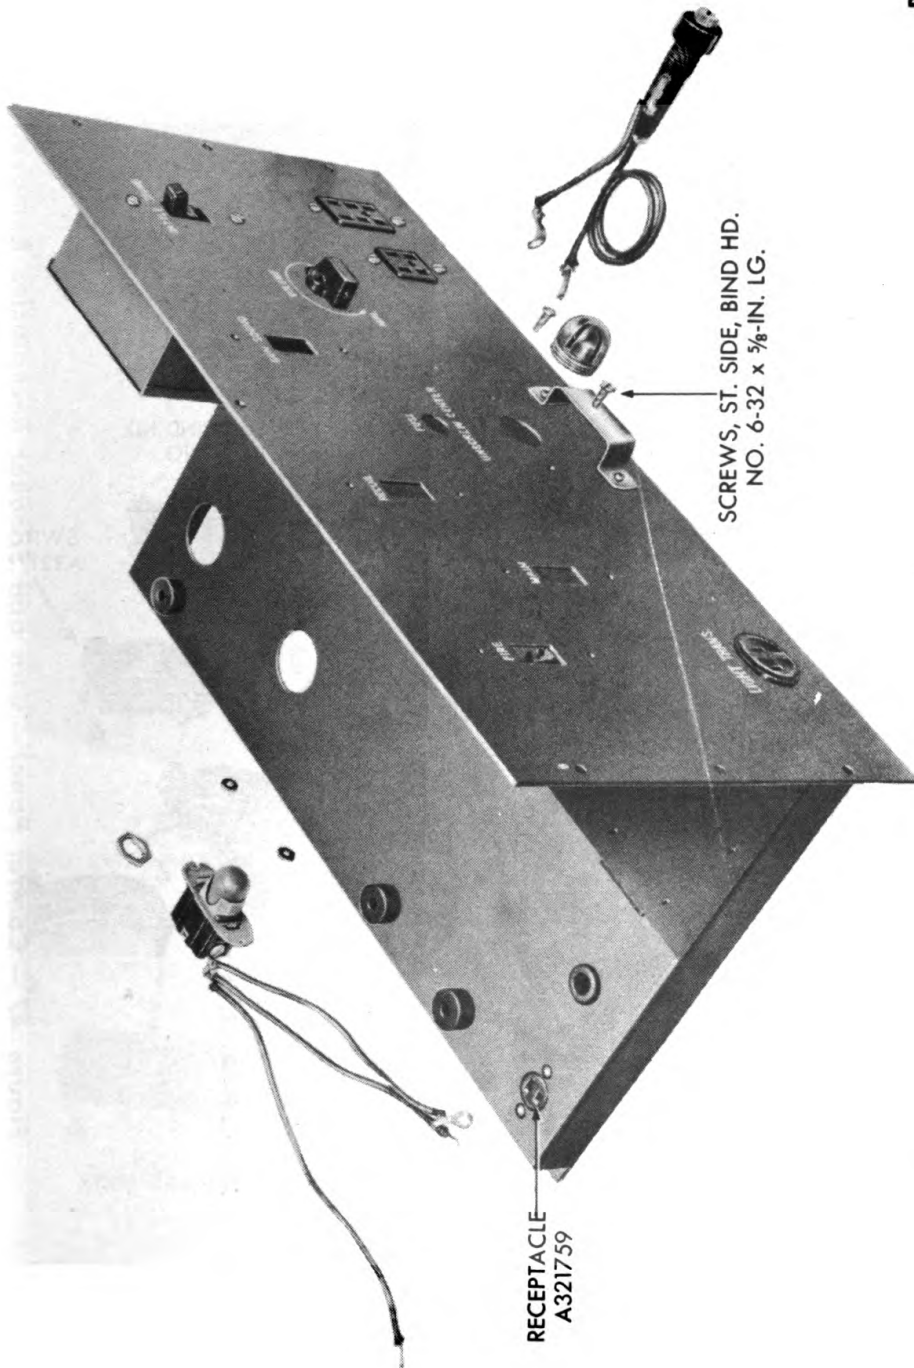
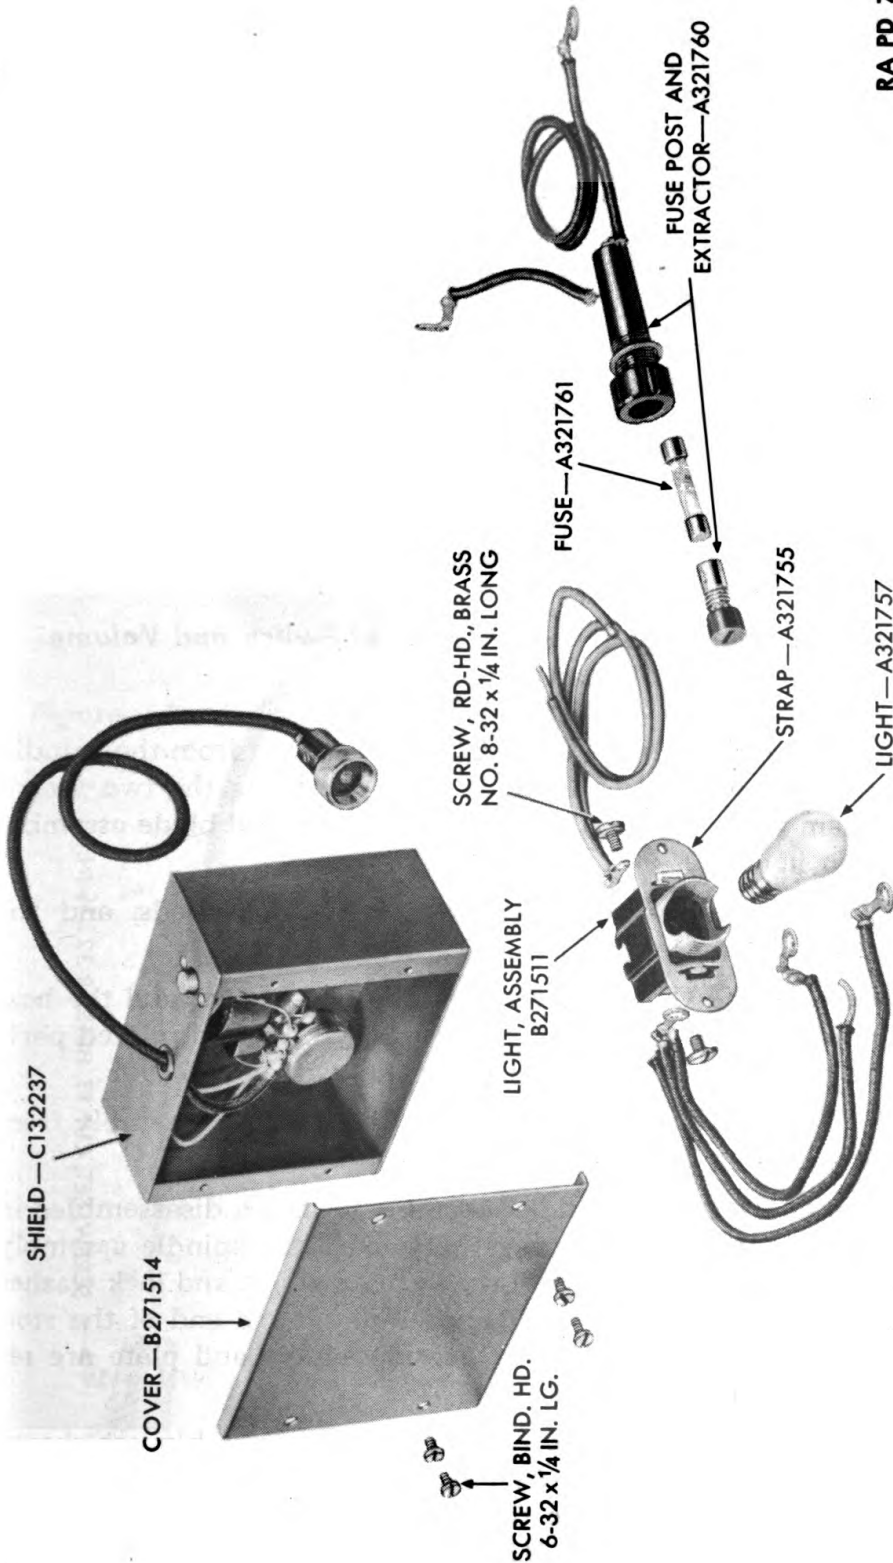

Figure 46 — Control Panel — Fuse Holder and Pilot Light Removed
Figure 50 — Battle Sound Switch, Volume Control, Fuse, and Pilot Light
(17) Remove all electrical leads to the pilot light assembly and to the fuse and extractor post (fig. 46). Unscrew the cap and remove the two binding head screws fastening the pilot light assembly to the front panel. Unscrew the hexagonal nut fastening the fuse and extractor post to the front panel. The component parts of these assemblies are shown in figure 50.
(21) Remove the four binding head screws fastening the cover (fig. 50) to the shield. Remove the set screw (fig. 51) holding the volume control lead in the connector. Pull the switch and volume control from the shield. Unsolder the leads to disconnect the volume control from the battle sound switch.